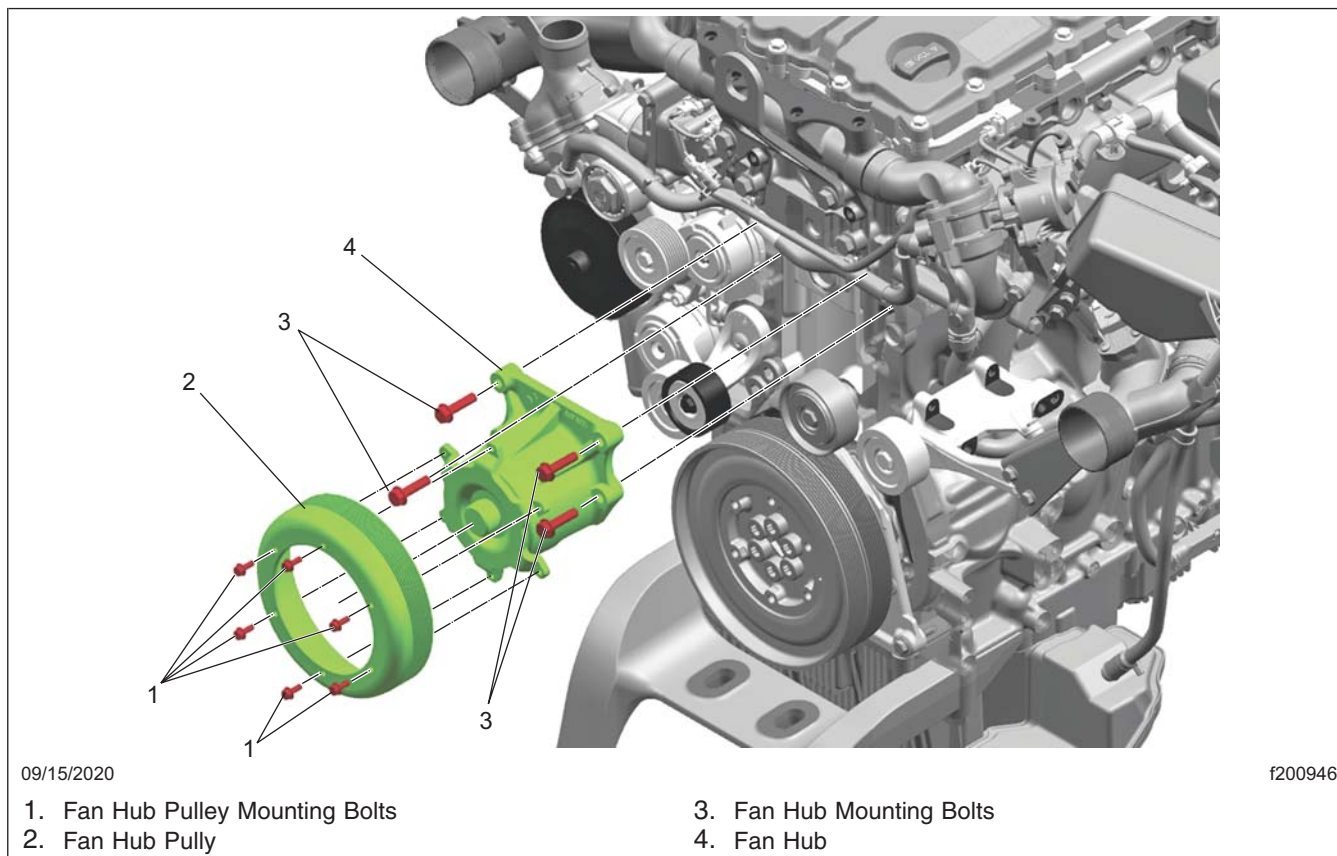
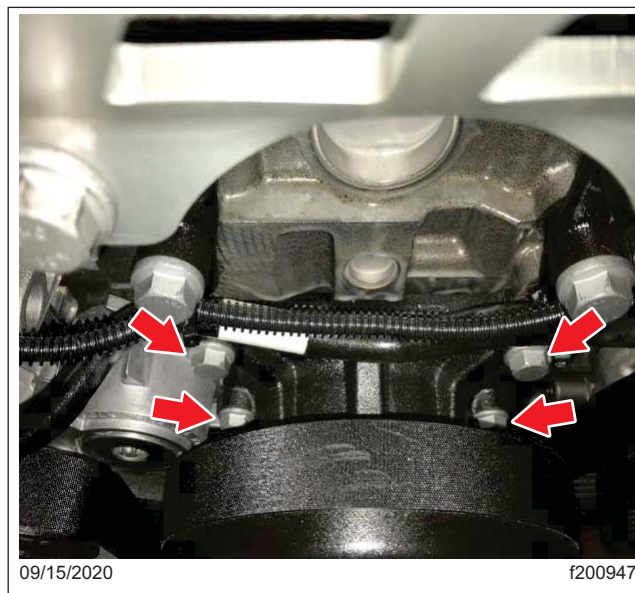

Fig. 1, Fan Hub and Fan Hub Pulley
Fig. 3, Fan Hub Mounting Bolts
5. Loosen the six fan hub pulley mounting bolts (see Fig. 1, Ref 1), but do not remove them completely.
10. Set a torque wrench to 35 lbf-ft and check all four fan hub mounting bolts. Tighten to 35 lbf-ft if needed. See **Fig. 1** and **Fig. 3**.